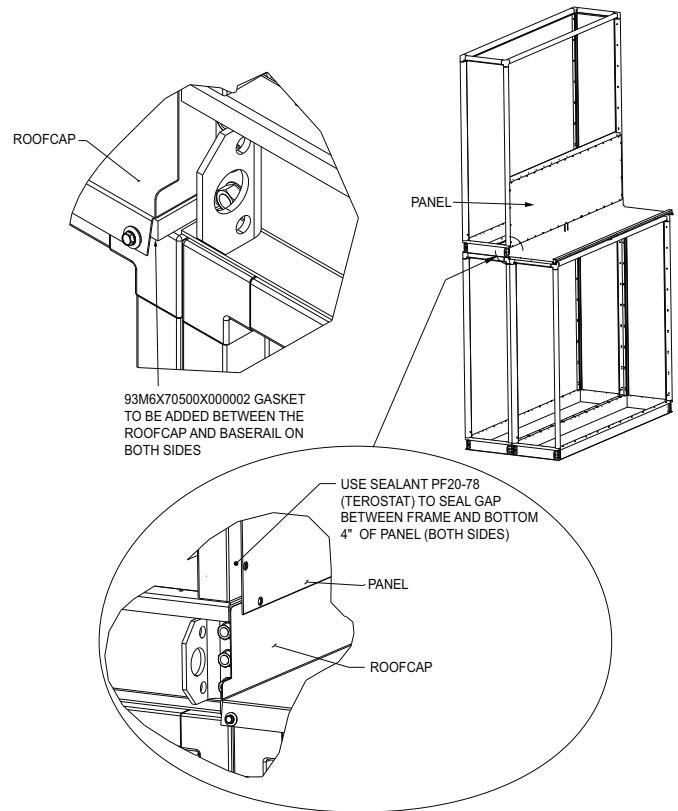

Fig. 172 — Remove Lower Panel
2. Remove screws securing the lower panel to the frame rail on the outlet wall supply air module. Save screws and panel for reinstallation. See Fig. 172.